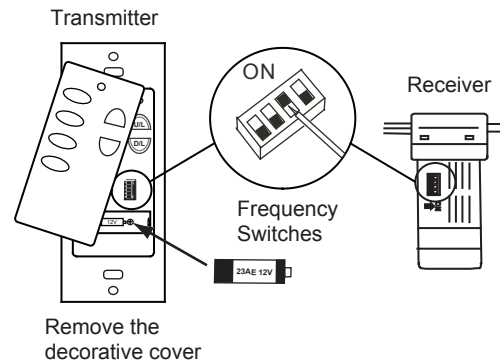

Fig. 1
Slide frequency switches to your choice of up or down position. (Factory setting is all up. Do not use this position. Use a small screwdriver or ball point pen to slide firmly up or down. (Fig. 1)
Slide frequency switches to the same positions as set on your transmitter. (Fig. 1)
- d. Install one 23A/12V battery (included). To prevent damage to transmitter, remove the battery if not used for long periods of time. (Fig. 1)
- e. Place the cover back to the transmitter by placing over buttons and snapping into place. (Fig. 1)